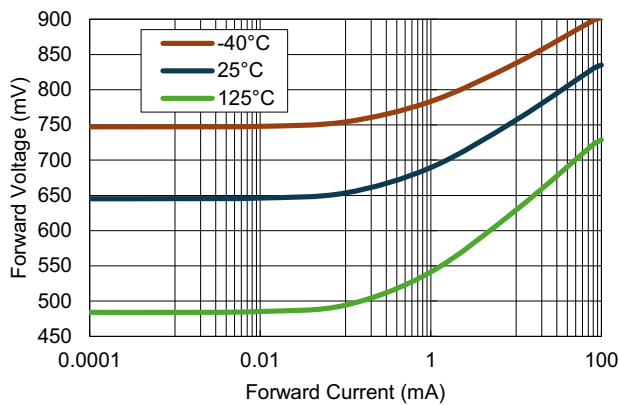
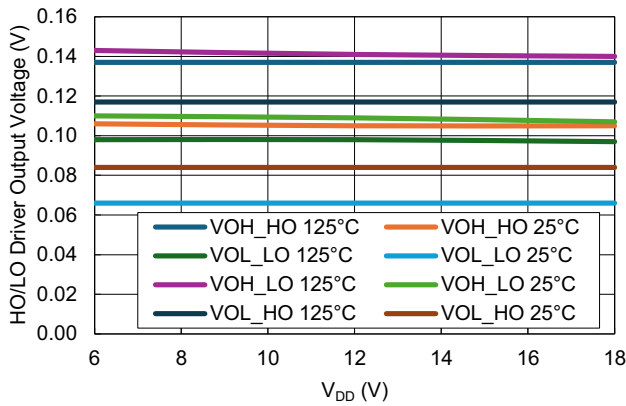

Figure 20. Boot Diode I-V Curve vs Temperature
Figure 22. HO/LO Output Voltage vs Temperature vs Supply Voltage (For Loading See Electrical Specifications)
- R_{diode} is the dynamic resistance of the boot diode. See Figure 20 and Figure 22.